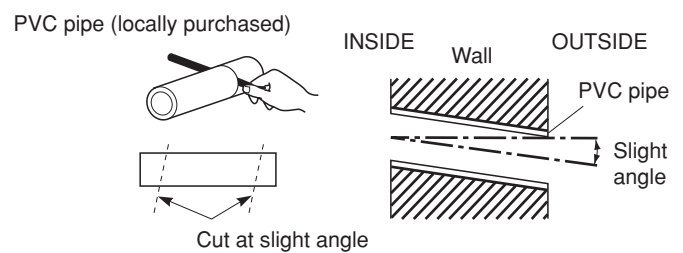

Fig. 3-49
- (9) Measure the thickness of the wall from the inside to the outside and cut PVC pipe at a slight angle to fit. Insert the PVC pipe in the wall. (Fig. 3-49)